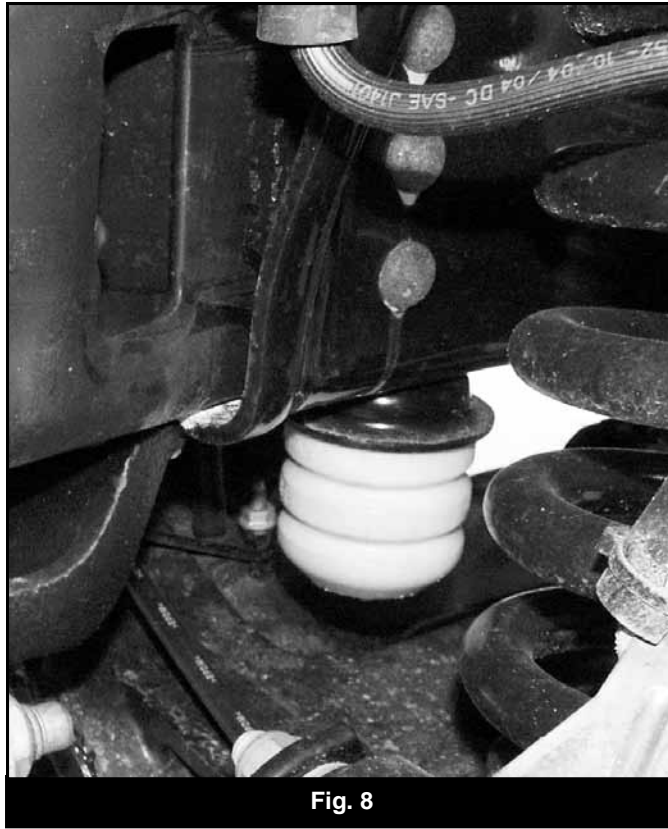

Fig. 8
29. Pull the OE front bump stops free from the bump stop cups and remove the bolt mounting the cup to the frame (Fig 8).